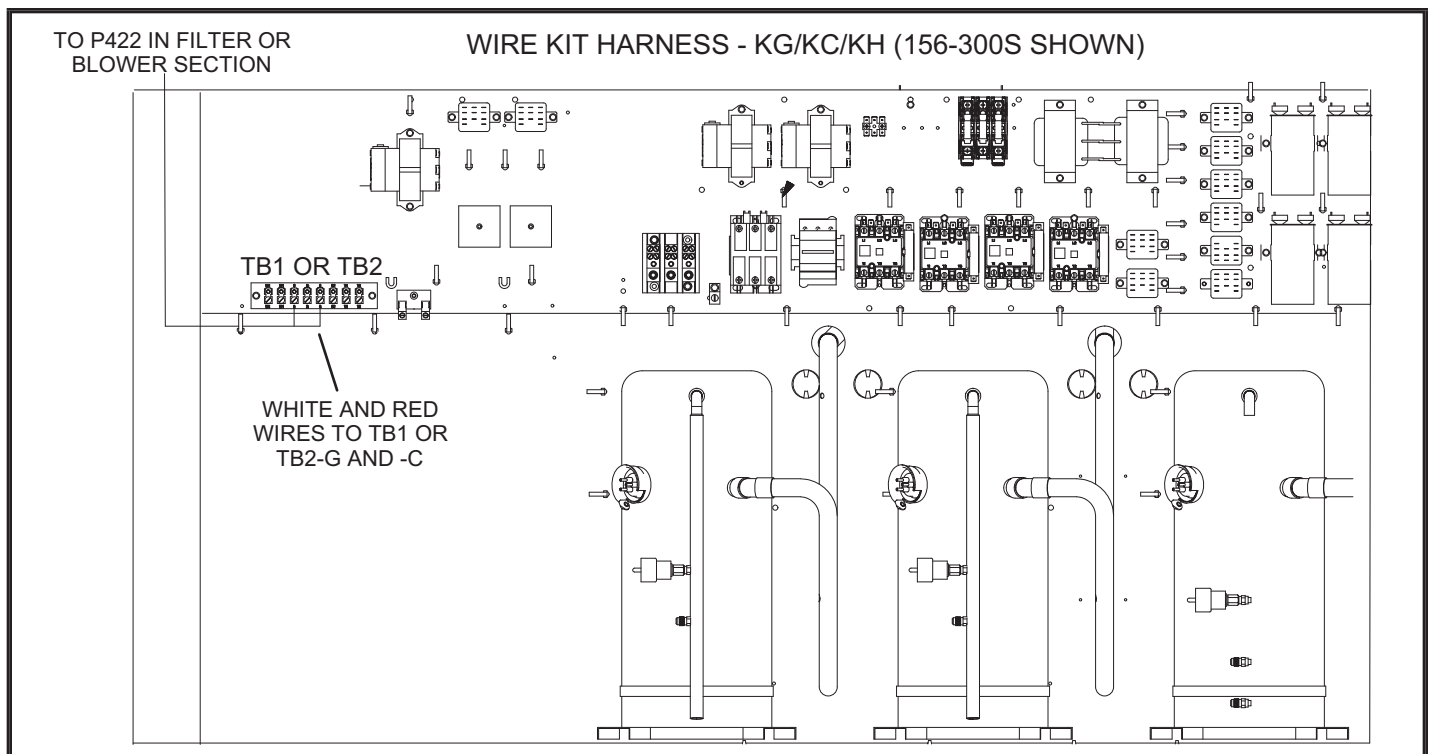

FIGURE 14
- 3 - Strip and connect the cut wires to TB1 terminals G and C. See FIGURE 14.